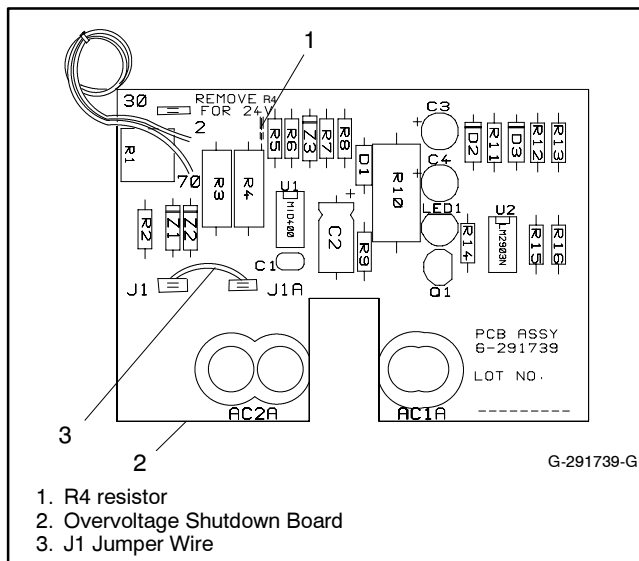

Figure 1 Overvoltage Shutdown Board
5. If installing the kit on a generator set with 24-volt cranking, clip and remove resistor R4 from the overvoltage shutdown board. See Figure 1.
8. Determine the output voltage of the generator set using the generator set nameplate or other documentation if the unit was reconnected. If the voltage is 139/240 volts, 3-phase, 4-wire, 60 Hz low wye or 277/480 volt, 3-phase, 4-wire, 60 Hz high wye, leave jumper wire J1 installed. For all other voltages, remove jumper wire J1 from the overvoltage shutdown board. See Figure 1.